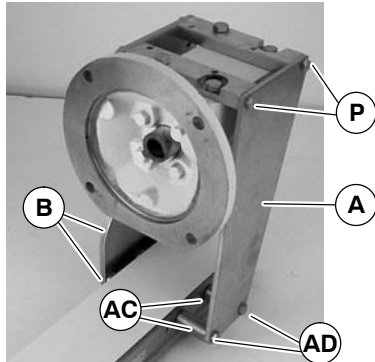

Figure 5
**NOTE:** 4" (102mm) and wider mounting assembly shown. 2" (51mm) and 3" (76mm) wide mounting assemblies include two spacer tubes (AC of Figure 5) and two long M6 screws (AD).
- 4b. For 2" (51mm) and 3" (76mm) wide conveyors, loosen (but do not remove) screws (P of Figure 5). Attach top mount assembly (A) to conveyor with screws (B), spacer tubes (AC) and screws (AD). Tighten screws (B) and (P) to 92 in-lb (10.4 Nm).